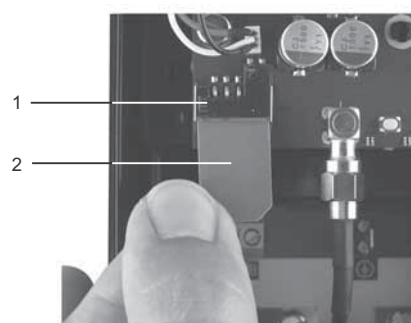

Fig. 14 Inserting the SIM card
3. Insert the SIM card into the CIM 250. See fig. 14.
The connectors on the SIM card must face inwards towards the CIM 250. See fig. 14.